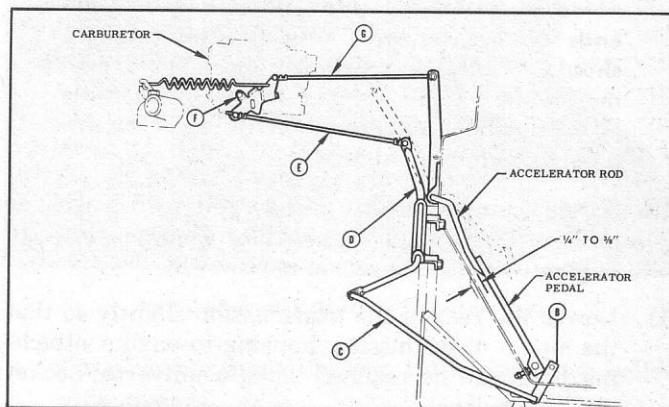

Fig. 6—Throttle Valve Linkage Adjustment
1. Place lever (F) (fig. 6) in wide open position and pull rod (E) forward until it is stopped by transmission internal stop. Adjust swivel on rod (E) for easy entrance into lever (F), and then readjust the swivel three turns, lengthening the rod by that quantity. Secure swivel in lever (F).